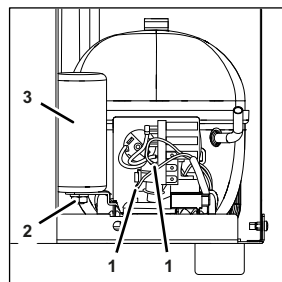

Figure 128
2. Disconnect the electrical cables (Figure 128/1).
3. Remove the fastening nut (Figure 128/2) from the starting capacitor (Figure 128/3).
4. Remove the starting capacitor (Figure 128/3).
5. Position the new starting capacitor (Figure 128/3) within the unit.
6. Attach the starting capacitor (Figure 128/3) using the fastening nut (Figure 128/2).
7. Connect the electrical cables (Figure 128/1).